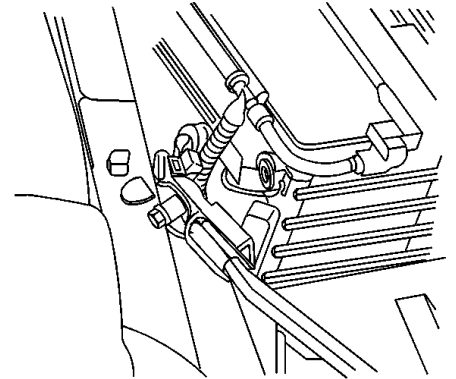

Fig. 2 Battery ground cable disconnection
5. Disconnect battery ground cable from battery, **Fig. 2**.
5. Connect battery ground cable to battery, **Fig. 2**. **Torque** battery cable bolt to 13 ft. lbs.